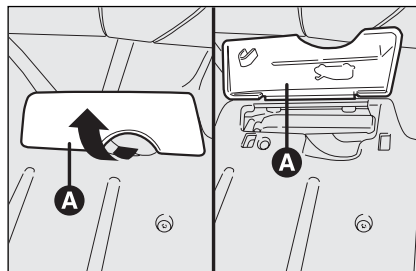

fig. 104
- raise the lever protection cover **A**-fig. 104 set aside the driver's seat;